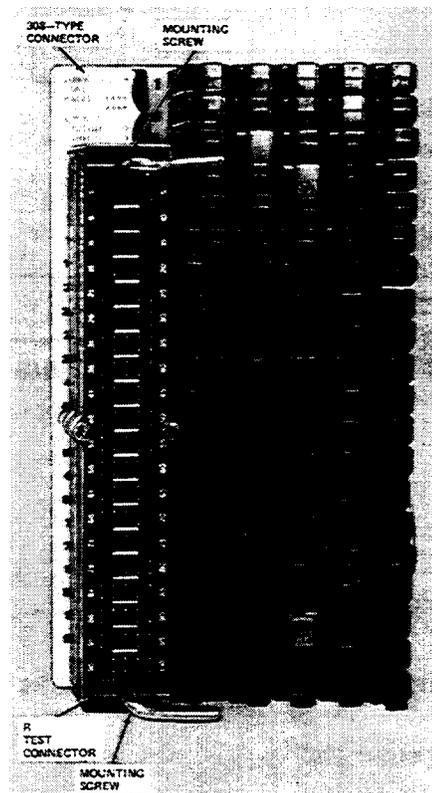

Figure 22—R Test Connector (AT-8916) Mounted on a 308-Type Connector
5.07 The R test connector (Figure 22) is a 100-pair test connector that is used for checking one cable pair at a time on the 308-type connectors.